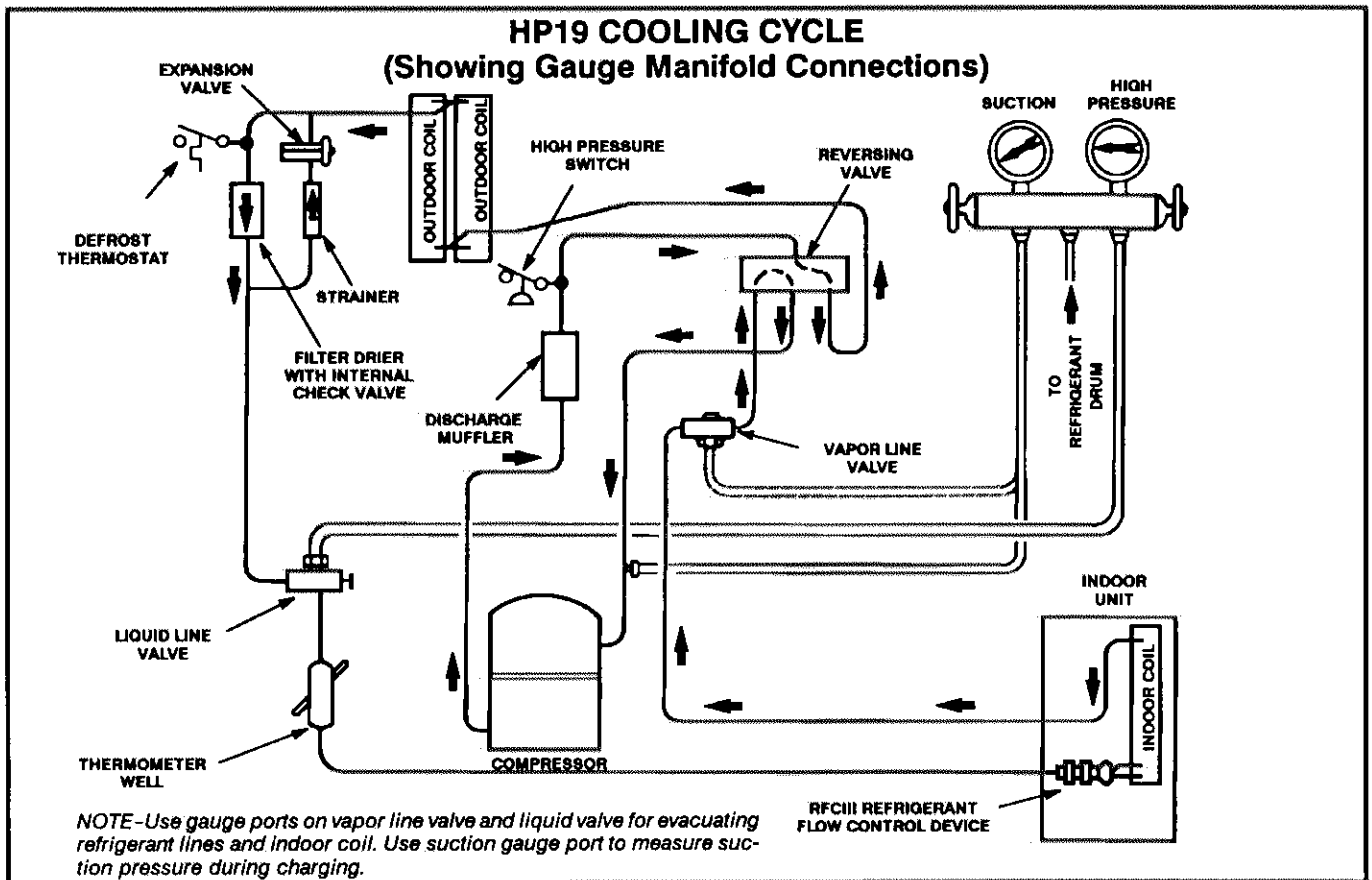

FIGURE 6
- 1- Attach gauge manifold as shown in figure 6. Connect vacuum pump (with vacuum gauge) to center port of gauge manifold. With both manifold service valves open, start pump and evacuate indoor coil and refrigerant lines.